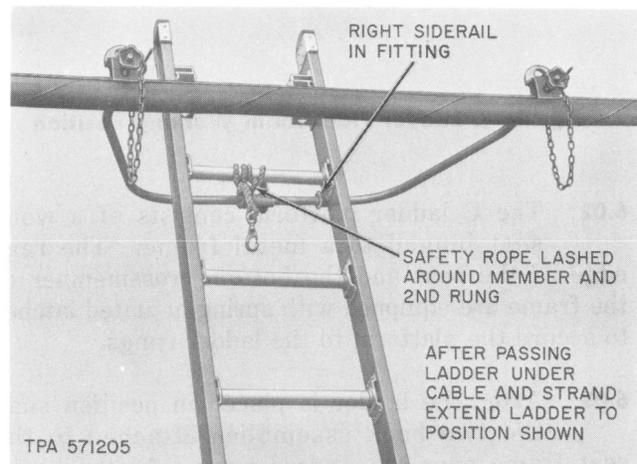

Fig. 7—E Ladder Support in Use
8.07 Descend and pull the foot of the ladder backward until the top of the ladder falls below the strand and cable. This may also be accomplished by lowering the ladder with the ladder rope. Push the foot of the ladder forward and adjust its length or raise the ladder with the ladder rope until the ladder assumes the position shown in Fig. 7 with the right side rail placed in the fitting on the support.
8.08 Climb the ladder, detach the rope from the fifth rung, and use it to tie the ladder support member to the second rung from the top, as shown in Fig. 7.